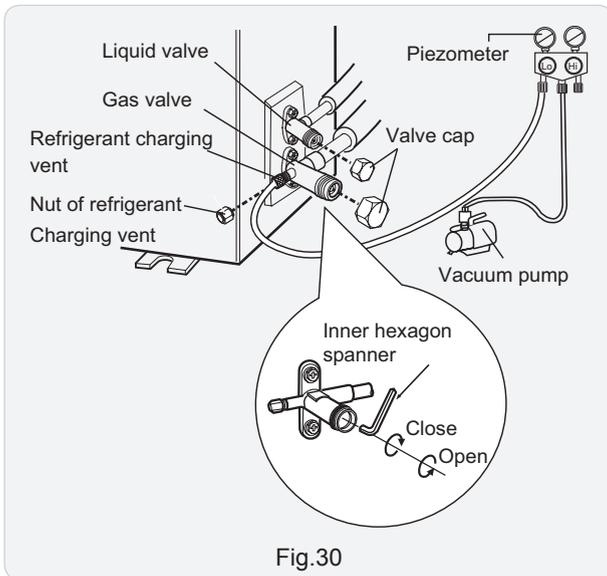

Fig.30
(1) Remove the valve caps on the liquid valve and gas valve and the nut of refrigerant charging vent.
(2) Connect the charging hose of piezometer to the refrigerant charging vent of gas valve and then connect the other charging hose to the vacuum pump.
(3) Open the piezometer completely and operate for 10-15min to check if the pressure of piezometer remains in -0.1MPa.
(4) Close the vacuum pump and maintain this status for 1-2min to check if the pressure of piezometer remains in -0.1MPa. If the pressure decreases, there may be leakage.
(5) Remove the piezometer, open the valve core of liquid valve and gas valve completely with inner hexagon spanner.
(6) Tighten the screw caps of valves and refrigerant charging vent.(As show in Fig.30)